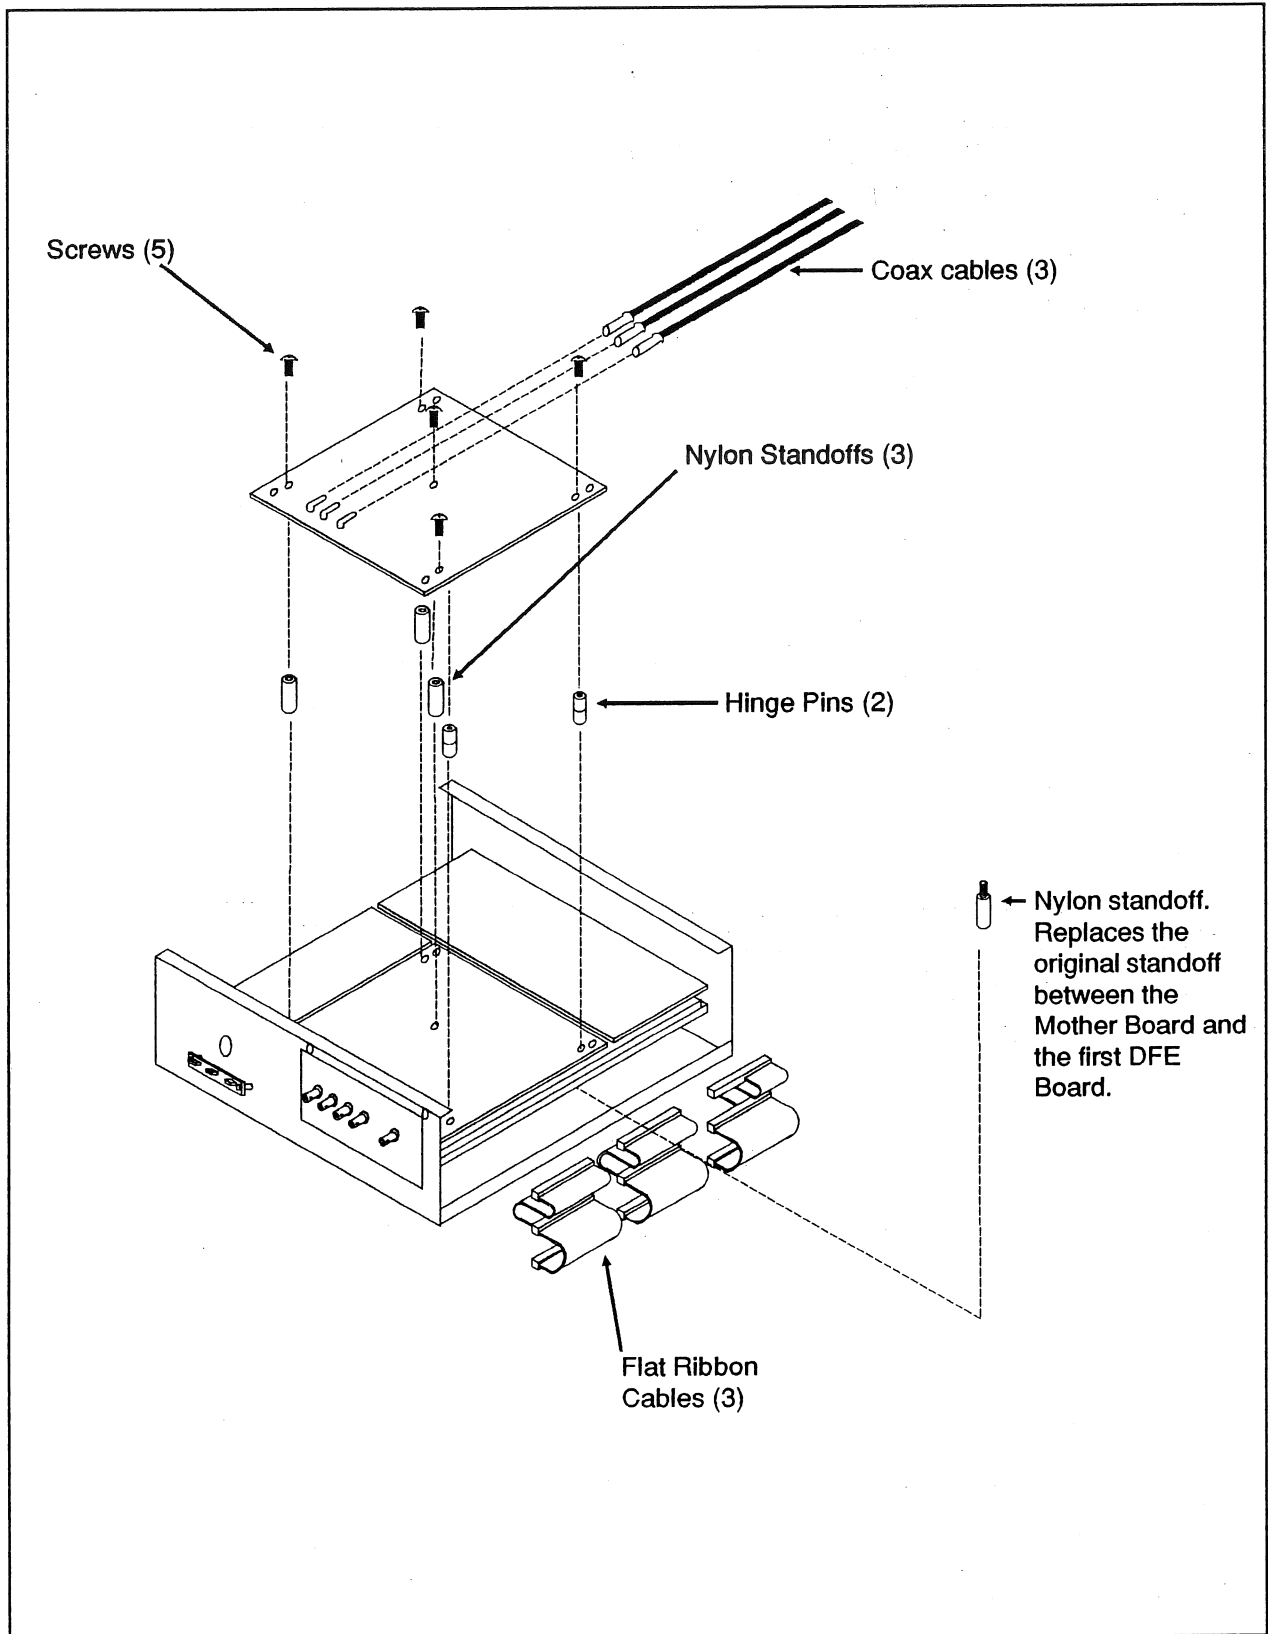

Figure 5-2. DFE Assembly
- 9 Install the new DFE Board on top of the existing DFE Board; attach with five screws. See Figure 5-2.